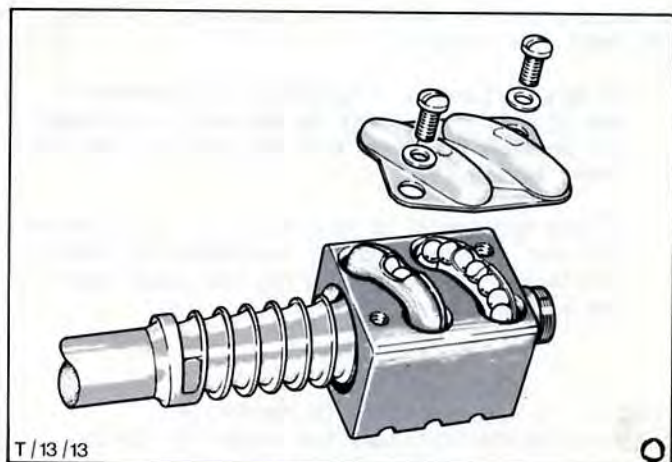

Fig.23. Remove transfer tube and sixty-two (62) steel balls.
6. Remove clamp securing transfer tube to worm nut, remove transfer tubes and sixty-two steel balls, Fig.23.